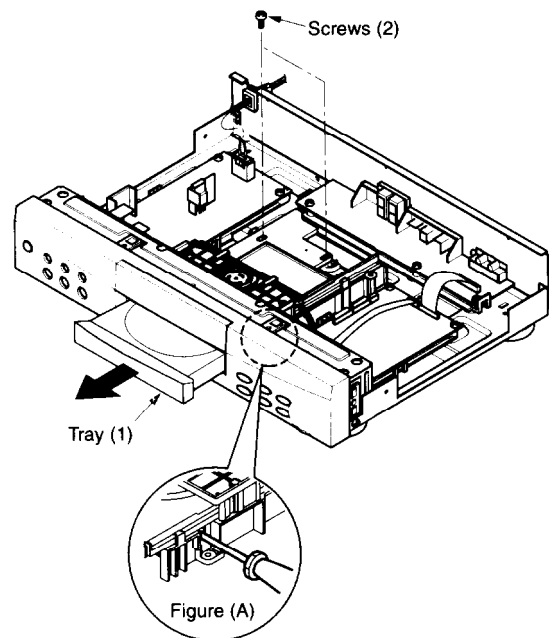

Fig. 1-1-2
1. Remove two screws (2) of the tray (1).
2. Push the portion (A) in Fig. 1-1-2 using a screwdriver, etc. and release the lock of the tray (1).
3. Pull out the tray (1) after moving the tray (1) in forward direction.